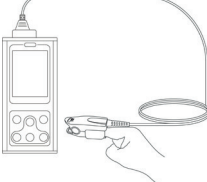

Figure 5. Sketch map for finger placement
- The finger should be placed correctly(see Attached figure 5), as improper assembly or improper contact position for sensor will influence the measurement.
A Put the finger into the probe as Figure 5.
(The appearance of actual probe may be different with the one shown as Figure 5, please refer to the actual probe.)